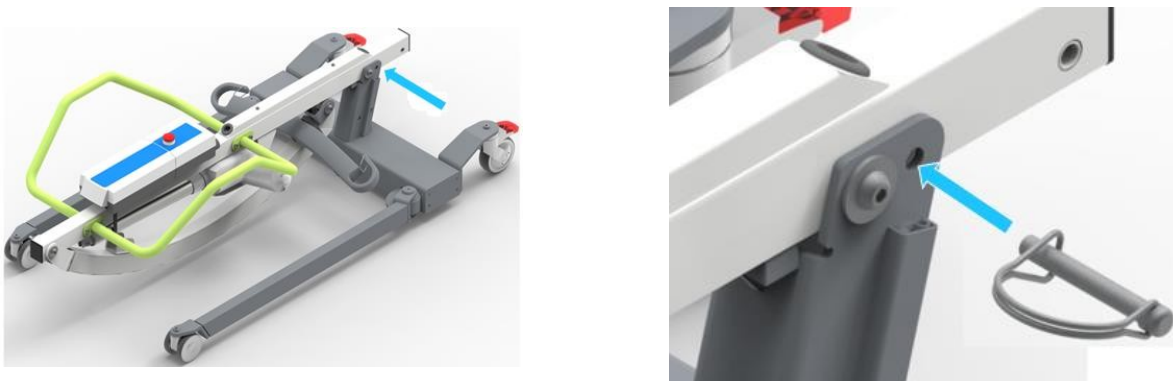

Figure 15 – Locking the pin
- Tilt the top of the device forward until the pin can be inserted and locked into place (Figure 15).